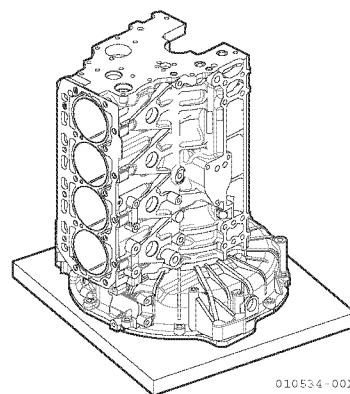

Figure 5-134
11. Stand the engine on the flywheel housing (**Figure 5-134**).